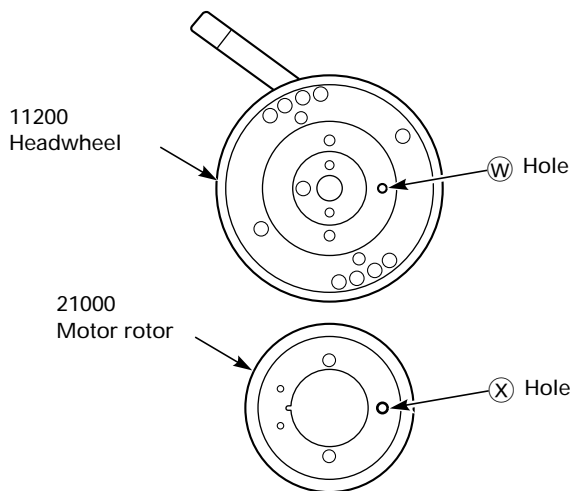

Fig. 8.39
- Undo the three screws (Pos. 10400) at the bottom of the mechanism and take the complete tape drum (Pos. 11000) out (Fig. 8.39).
**Note:** On reassembling the motor rotor (Pos. 21000) the phase must be adjusted to that of the headwheel. The hole (W) of the headwheel and the hole (X) of the motor rotor (Pos. 21000) must be on the same side as shown in Fig. 8.39. Tighten the screws (Pos. 30000) for attaching the motor rotor (Pos. 21000) and the motor stator (Pos. 22000) using a torque of 2.5 to 3.5 kg/cm.